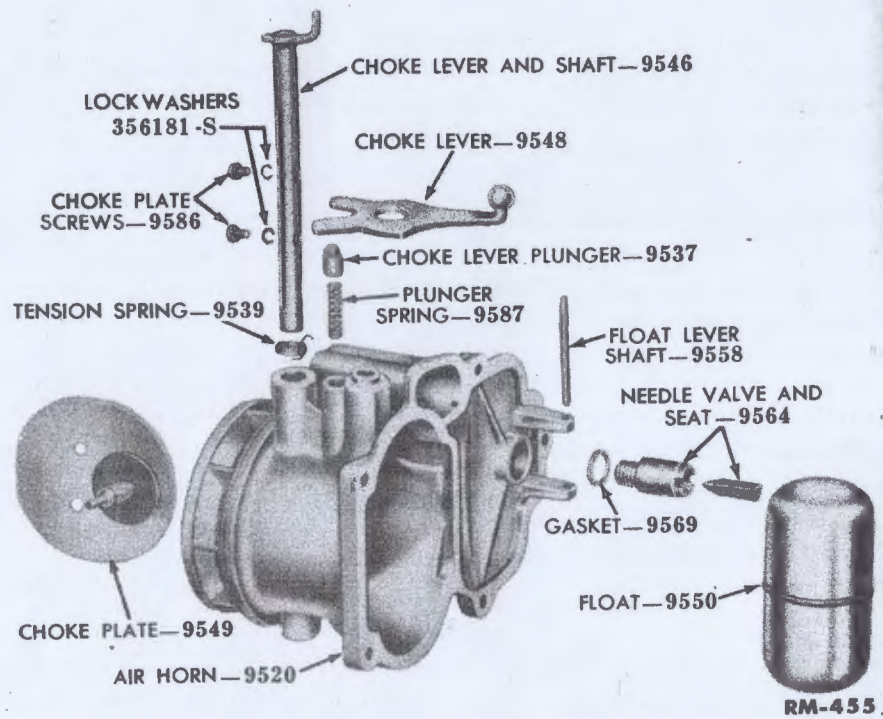

Figure 5—Air Horn, Disassembled (Dual Downdraft)
(4) **Disassemble Air Horn.** Remove the float lever shaft, float, and float needle valve from the air horn (fig 5). Remove the float needle valve seat with a jet wrench. Remove the two screws that secure the choke plate to the choke shaft. Remove the choke plate from the shaft, then remove the shaft.
(2) **Choke Plate.** Replace the choke plate if the poppet valve spring (figs. 5 and 11) is weak or broken, or if the plate is bent or damaged.
(3) **Choke Shaft and Lever.** Replace the choke shaft (figs. 5 and 11) and lever if the shaft is worn or bent, if the threads are stripped, or if the lever is damaged or loose on the shaft.
(4) **Choke Shaft Spring.** Replace the choke shaft spring (figs. 5 and 11) if it is broken.
(5) **Float Needle and Valve Seat.** The float needle and valve seat are matched in sets, therefore, when one is faulty, both must be replaced. Replace both the needle and the seat (figs. 5 and 11) if there is any indication of wear on either part.